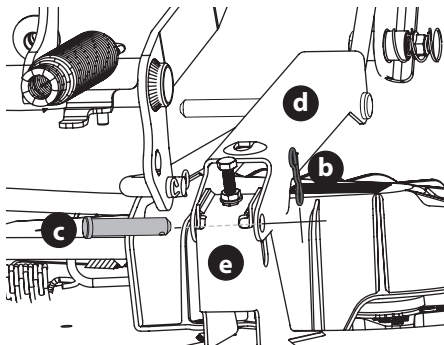

Figure 39
3. Remove the two bow-tie pins (b) from the clevis pins (c) that secure the lift link brackets (d) to the rear deck lift brackets (e) on the deck (Figure 39). Remove the clevis pins (c).